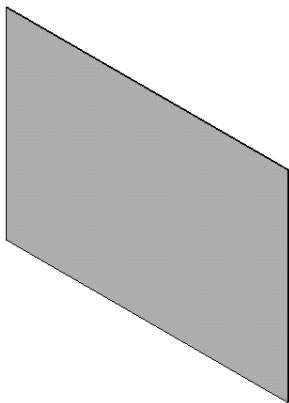

Figure 16-134 Base flange
3. Create a rectangle of 350x250 mm as the sketch of the base flange, refer to Figure 16-134.
Figure 16-134 shows the base flange created by using the sketch created on the Front Plane as the sketching plane.